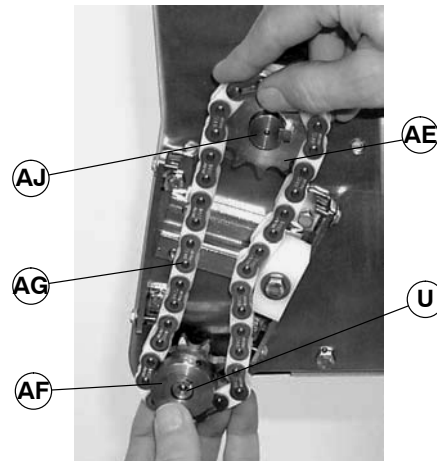

Figure 13
6. Install timing chain (AG of Figure 13) over sprockets (AE and AF). Install timing chain and sprockets on conveyor input shaft (U) and gearmotor output shaft (AJ). Do not tighten sprocket set screws.